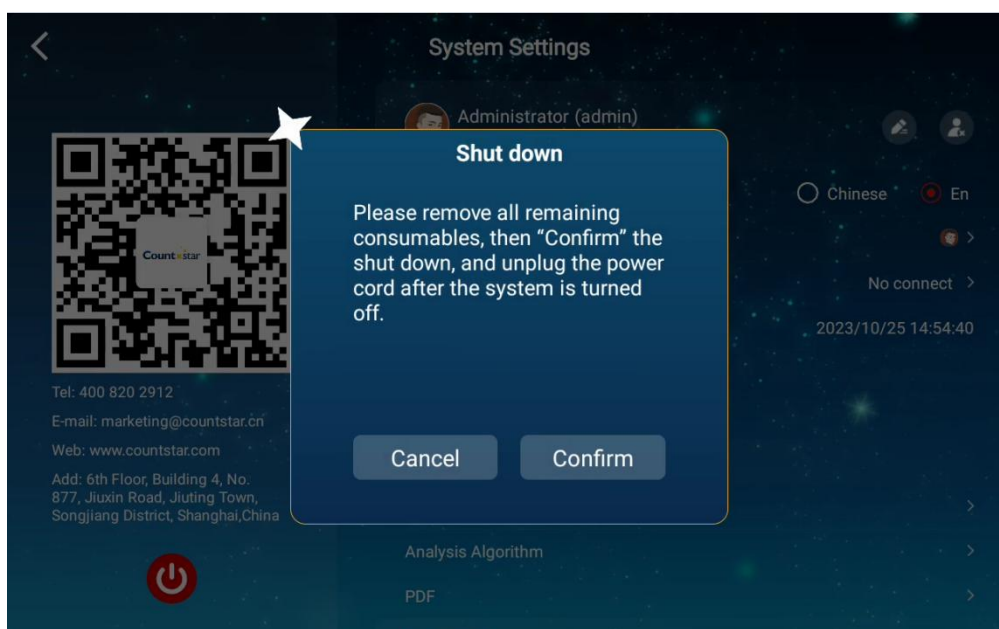

Fig. 2.3 Pop-up window for shutdown procedure
2) The user has to click on the "Off  " icon on the left and the following pop-up window will appear, requesting: "Please unplug the consumables and turn off the power after the system is turned off", as shown in **Fig. 2.3**. In case, a Countstar® chamber slide is still inserted in the instrument, it has to be removed completely, followed by a subsequent click on "Confirm". If no chamber slide was inserted, the user can click immediately on the "Confirm" icon. To return to the System Settings menu, the user has to click on "Cancel".